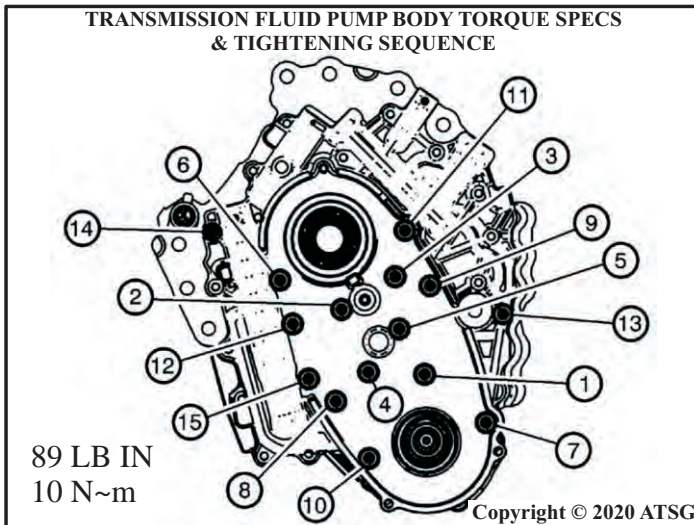

Figure 8
- (5) Transmission Pump Assembly torque specs and tightening sequences are provided in figures 8 and 9.